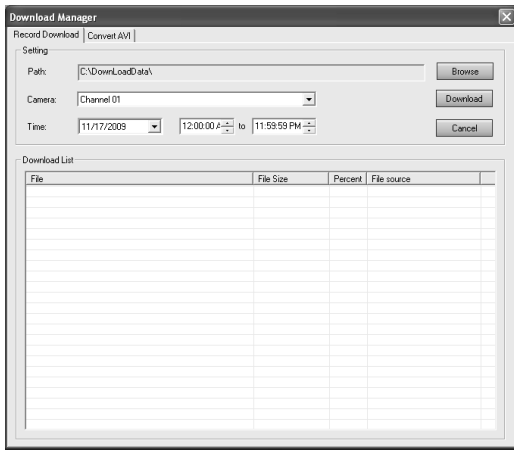

Figure 5-32
**Remote Record Download:** Define storage path for file download, select camera, define time range, and then click “Download” button to download remote record file, as shown in Figure 5-32.